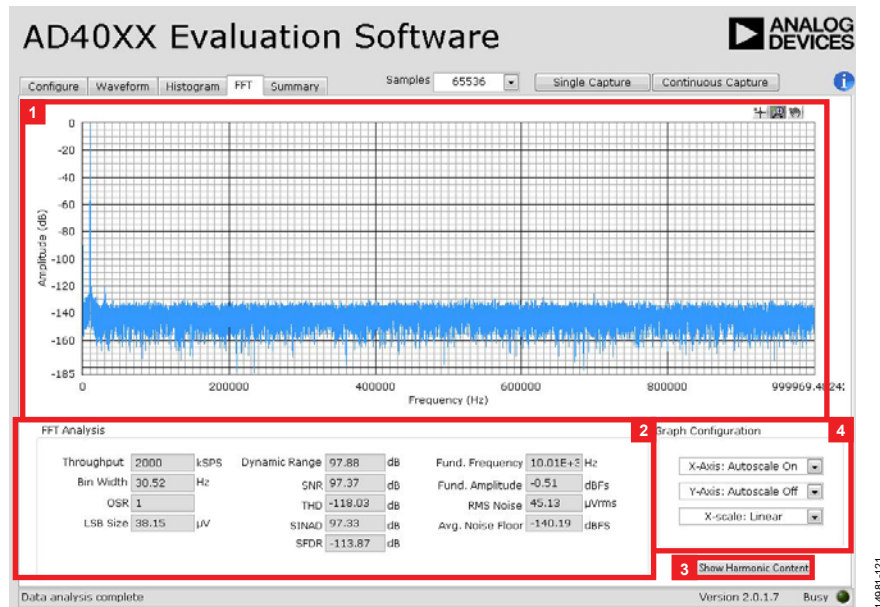

Figure 21. FFT Tab View
Figure 21 shows the FFT tab view. The FFT tab displays the calculated FFT representation of the conversions results from the connected **AD4000** family device and common ac performance metrics. The FFT tab contains the following controls and indicators:
- **FFT graph** (Label 1 in Figure 21): displays an FFT of the most recently captured or loaded conversion results. Set the scale and range of the FFT graph by double clicking on the minimum and maximum values along the x-axis and y-axis and entering the desired values. The FFT graph also includes viewing tools that described in Table 5.
- **FFT Analysis** (Label 2 in Figure 21): displays common ac performance metrics of the captured data. Results are calculated from the FFT spectrum, typically ignoring the first six frequency bins.
- **Show Harmonic Content**: contains **Frequency** and **Amplitude** information for the fundamental and harmonic tones identified in the FFT. These displays are only visible when toggled by the **Show Harmonic Content** control and are not displayed in Figure 21.